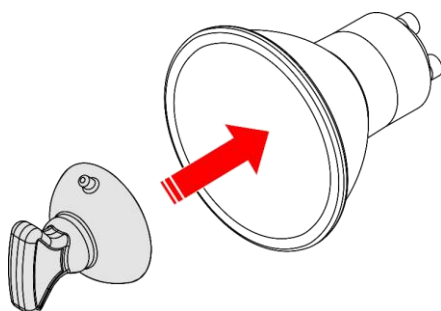

Fig. 04
- 01) Attach the delivered suction cup to the light bulb (see Fig. 04).